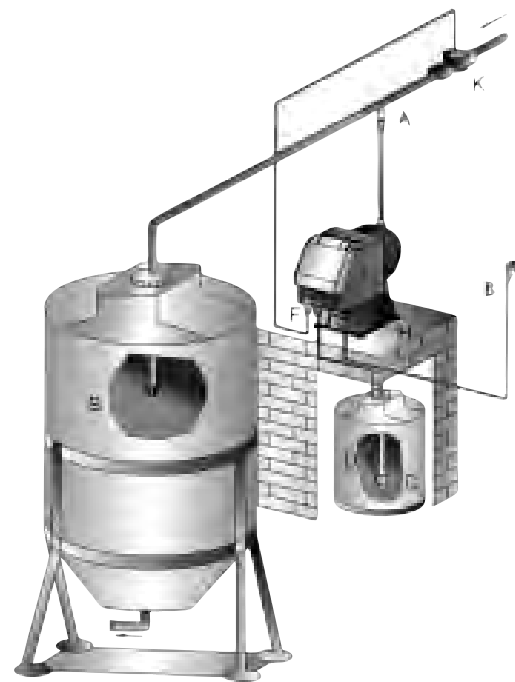

Fig. 12
- Locate the pump in position as shown in fig. 5 taking into account that it can be located over or under the liquid level within a maximum difference of 2 meters. The injection point must always be located higher than the liquid being injected. Do not install the pump directly on the tank as some additives produce vapour which may damage the equipment. For correct installation see fig.12. If the plant being treated operates at atmospheric pressure (free discharge additive) and the additive tank must be placed higher than the injection point (Fig. 6), check periodically that the injection valve is operating correctly, as excessive wear could cause additive injection by liquid loss (even when the plant is not operating). If the problem persists, insert a correctly calibrated counter pressure valve C between the dosing pump and the injection point (Fig. 6). For liquids that give off aggressive exhalations, do not install the pump over the tank unless the tank is hermetically sealed.
[fig.12]